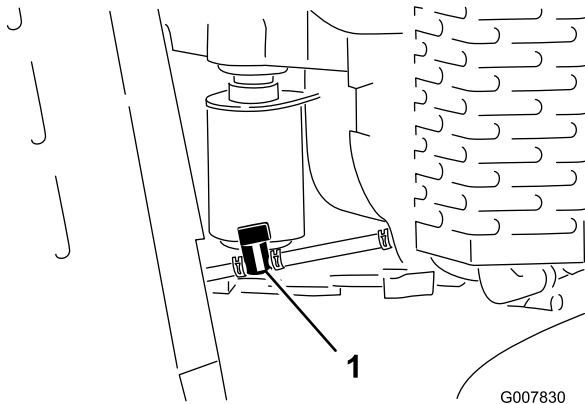

Figure 41
4. Turn the fuel shut-off valve to the closed position (Figure 41).
5. Squeeze the ends of the hose clamp on the engine side of the shut-off valve together and slide it up the fuel line away from valve (Figure 41).
6. Pull the fuel line off the valve (Figure 41). Open the fuel shut-off valve and allow the gasoline to drain into a gas can or drain pan.
3. Turn the fuel shut-off valve to the closed position (Figure 41).
7. Turn the fuel shut-off valve to the open position (Figure 41).